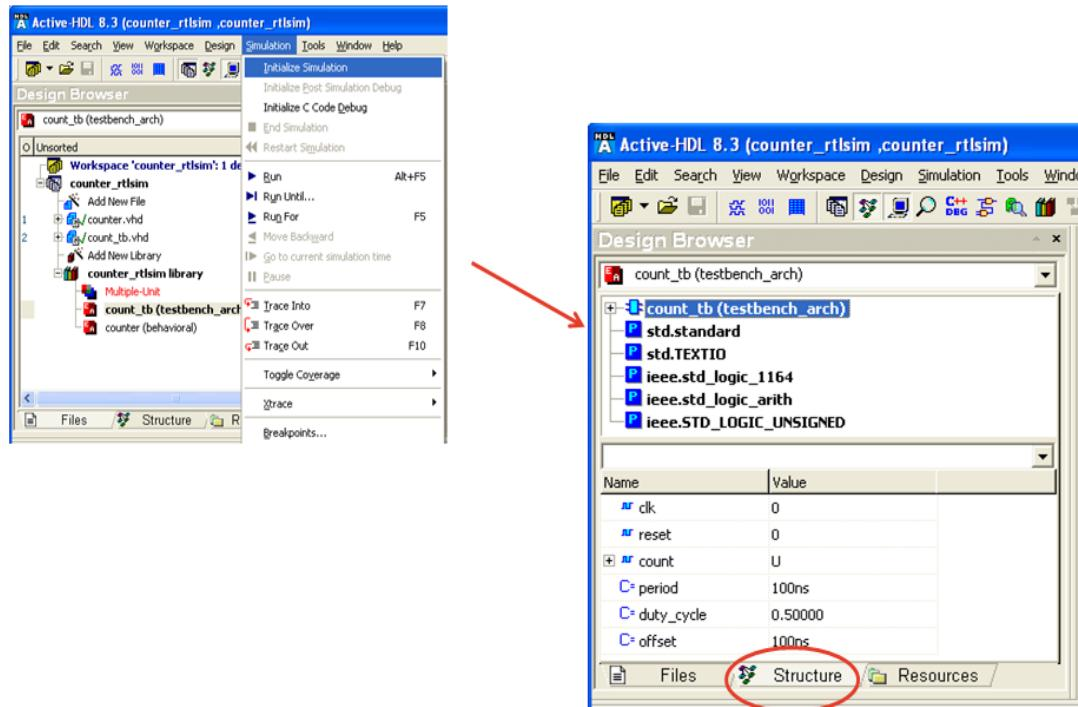

Figure 10-11 : Initialize Simulation.
- Click on Simulation > Initialize Simulation. After Initialization, the “Design Browser” view will be changed from “file” view to “Structure” view as shown in Figure 10-11.